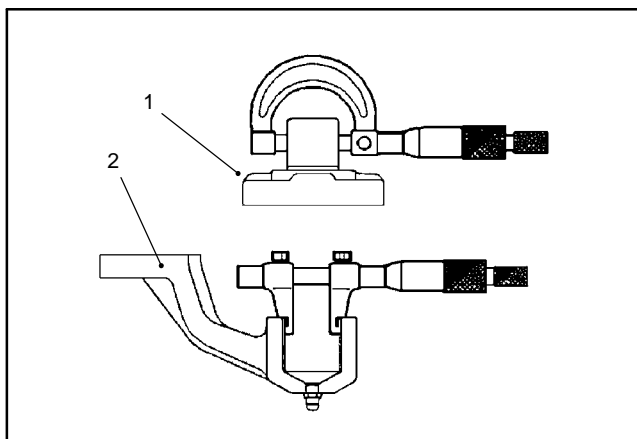

Figure 19
1. Measure the knuckle pin O.D. and the axle case support bushing I.D. to determine the bushing to pin clearance (Fig. 19). Replace components as necessary.